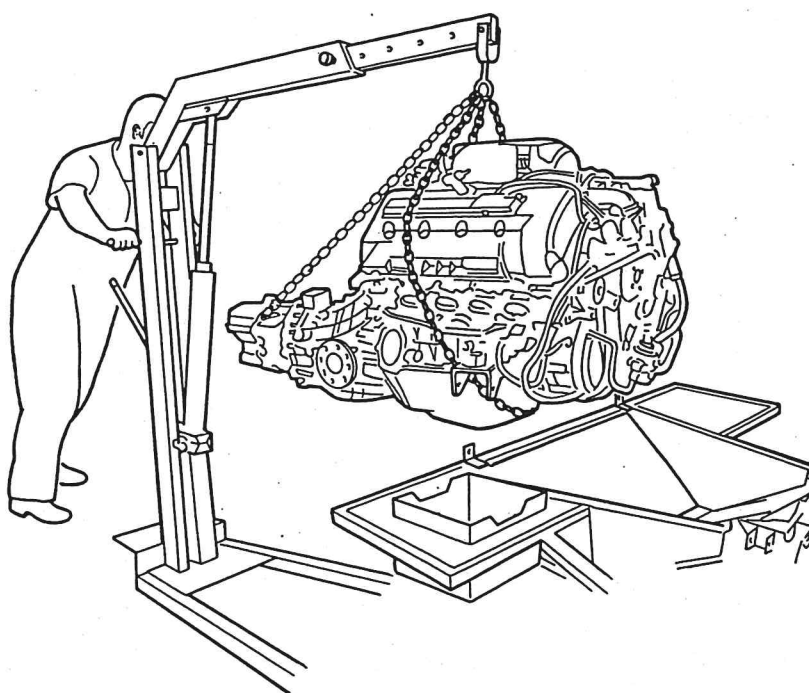

Fig. 5 *Hoisting the Engine for Installation*
13. The engine mounting chassis cross-member (Fig. 5) should already be bolted into place. Check/tighten bolts to torque.
NOTE. The Mustang lifting brackets are not used for hoisting the engine. Instead a lifting chain or strap is used and the engine is suspended from a hoist (Fig. 5). The chain or strap and hoist are left in place taking the weight of the engine until after the mountings have been bolted into place.
3. Lower engine finally into place. Insert the engine mounting-to-chassis bolts (Refer to Fig. 5) into the cross-member mountings. On the right-hand side an M10 x 100mm bolt is used with a spring and plain washer under the head of the bolt and it screws into the captive bolt on the mounting. On the left-hand side mounting an M10 x 120mm bolt is used with a spring and plain washer under the head and it screws into the captive nut on the mounting. Do not tighten fully until after the gearbox mounting bolts are tightened.